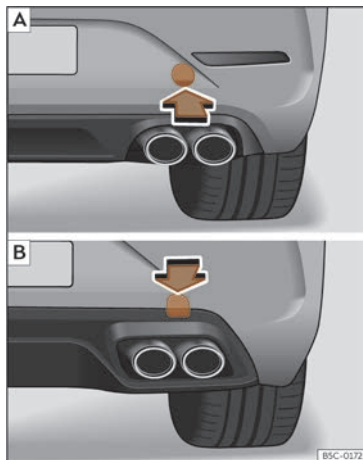

Fig. 208 Rear bumper on right: remove the lid. **A** Leon Sportstourer; **B** Leon.
The housing of the screw towing eye is on the right side of the rear bumper behind a lid >>> **Fig. 208**.
- *Leon Sportstourer*: Press the lower side of the lid >>> **Fig. 208 [A]** to unclip it.
- *Leon*: Press the upper side of the lid >>> **Fig. 208 [B]** to unclip it.
- Screw the towing eye in the housing by turning it to the maximum **anticlockwise** >>> **Fig. 208** , >>> **Fig. 208**. Use a suitable object that can completely and securely tighten the towing eye in its housing.